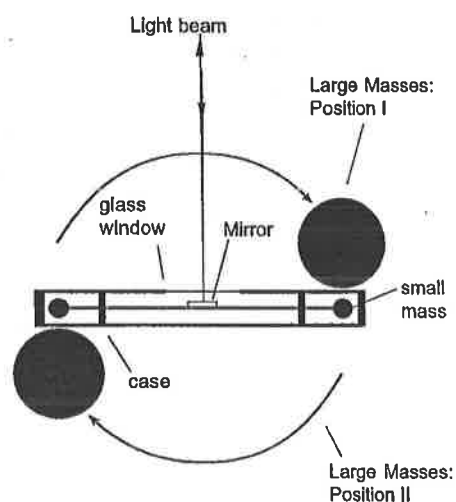

Figure 12
3. Place the large lead masses on the support arm, and rotate the arm to Position I (Figure 12), taking care to avoid bumping the case with the masses.